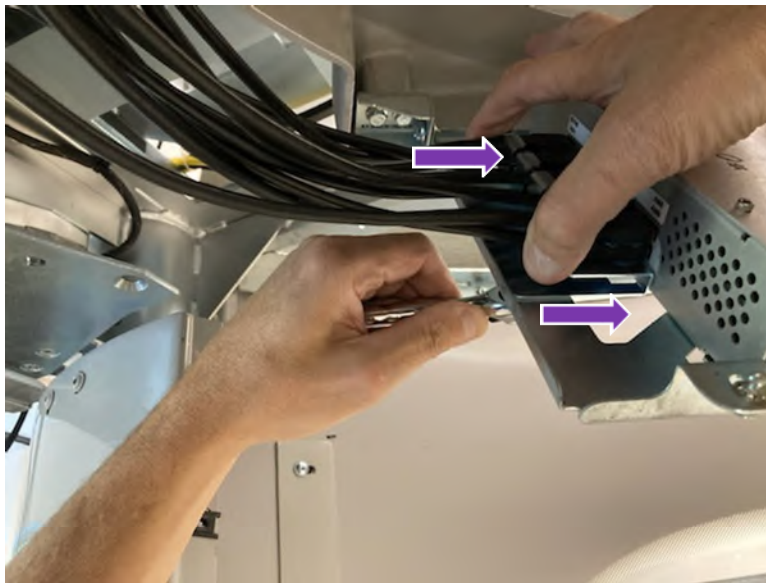

Figure 27 – V3ISU Installation: Step 7
- 7.11.7 On the rear of the ISU, push the retention bracket against the unit by applying pressure to the ends while tightening the screw as shown in Figure 27.